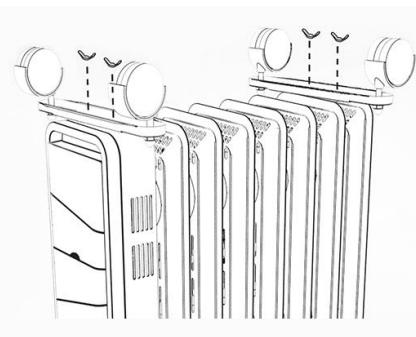

Fig.3
3. Attach them to the heater using the screws and wing nuts supplied. Tighten the wing nuts. (Fig.3)